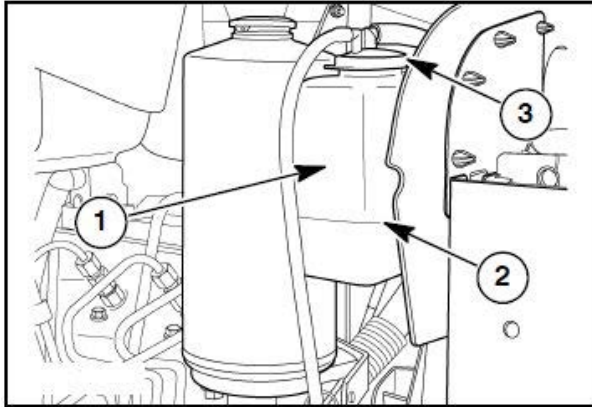

Figure 3-21
1. Visually inspect the coolant level in the overflow tank (1) in Figure 3-21.
2. If the coolant level is below the cold level line (2) in Figure 3-21, remove overflow tank cap (3) in Figure 3-21, add a 50/50 solution of ethylene glycol anti-freeze and water solution as necessary. Plain water will dilute the solution and weaken its protection.